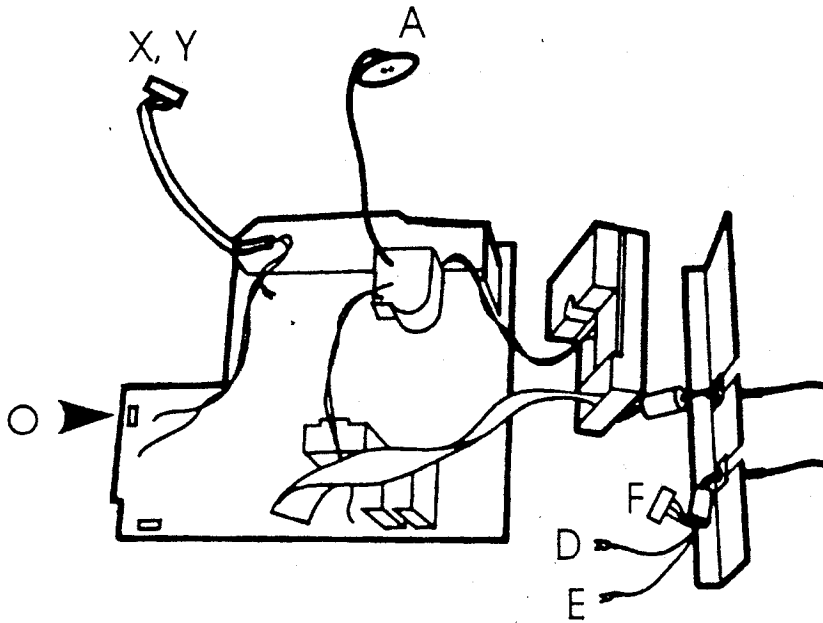

Figure 4
11. Disconnect the two leads, X and Y from the dynamic focus PCB, see figure 4.
14. Disconnect the controls lead, O, see figure 4.